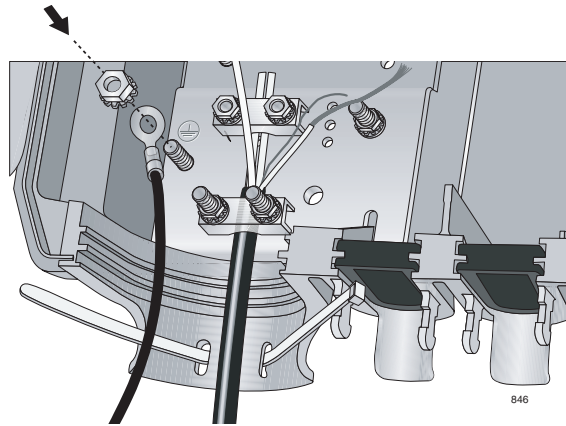

Figure 11. Lining Up the Ground Wire
3. Secure the ground wire ring lug on the ground wire post using the Kepnut, as shown in Figure 11.